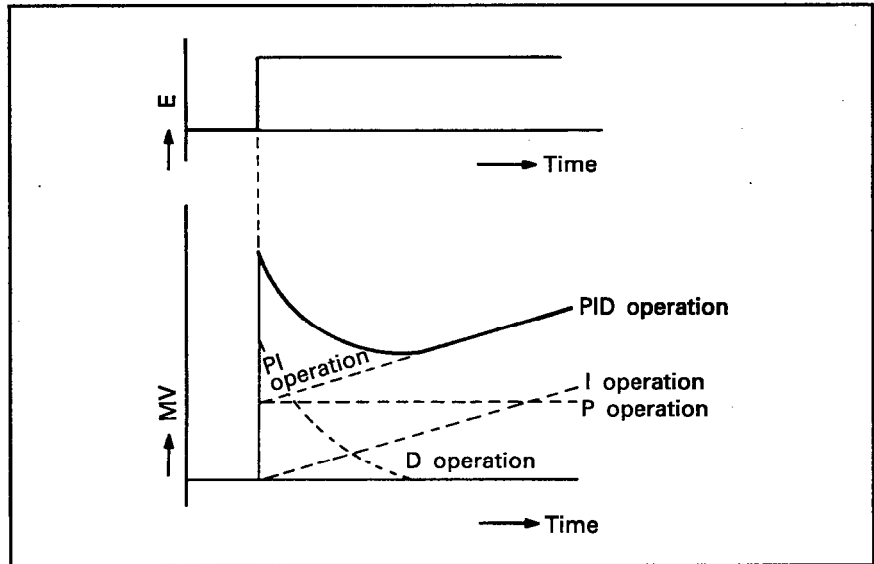

Fig. 4.5 PID Operation with Constant Error
- (1) During PID operation, the system is controlled by the MV (manipulated value) calculated in the "P + I + D" operation.
- (2) PID operation in step response with a constant E (error) is illustrated in Fig. 4.5.